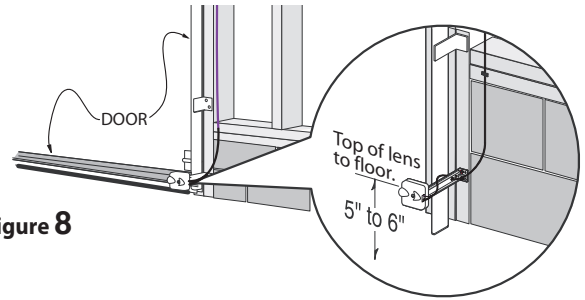

Figure 8
- Determine location for mounting. They do not need to be directly adjacent to the door but must be somewhere along the wall where there will be an unobstructed line between them. **Fig 8**.
⚠WARNING: Photocell systems provide entrapment protection when mounted near the doorway in such a way that the lower portion of an individual's leg will break the photocell beam during normal walking conditions. **Fig. 8**.